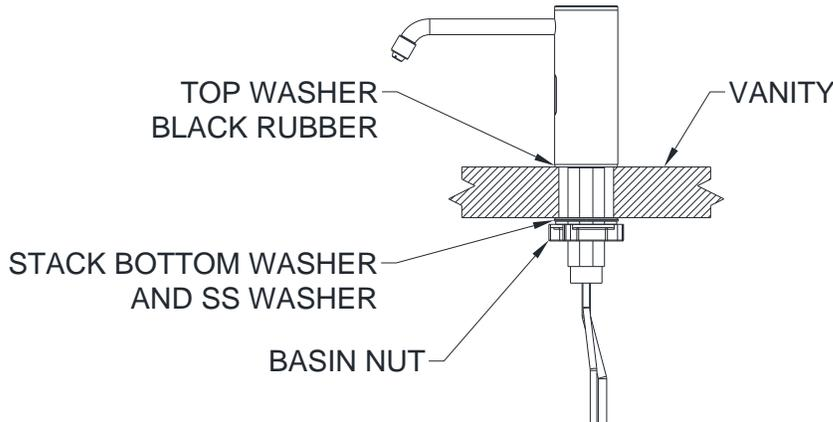

Fig. 1
1. Install Foam Soap Dispenser (FSD) Model № 0389 to counter top with washers and basin nut (supplied) through 1" Dia. [Ø25] hole (by others). (See Fig. 1)